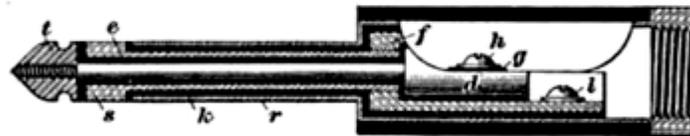

FIG. 17
53. Triple Contact Plug.—A triple contact plug is shown in Fig. 17. In this style there are three conductors, known as tip *t*, sleeve *s*, and ring *r*. The tip *t* is screwed on to a steel pin that runs back through the hard-rubber insulating sleeve to the connecting block to which the connecting screw is fastened, and in order that the cord conductor may not touch the connecting block *f*, an insulating washer *g*, is placed under the screw and washer *h*. The insulating washer is made large enough so that there will be no stray strands to short-circuit the plug. The sleeve *s* is made from brass tubing and passes through the insulating tube *k* to its